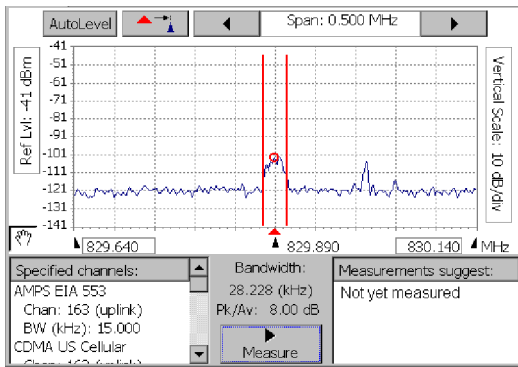

Figure 3-20: A trace spectrum in the Interference window
6. Tap the **Identify** tab. See Figure 3-20.
3. Look at the **Assignments for this Freq.** readout at the lower left of the display. See Figure 3-20.